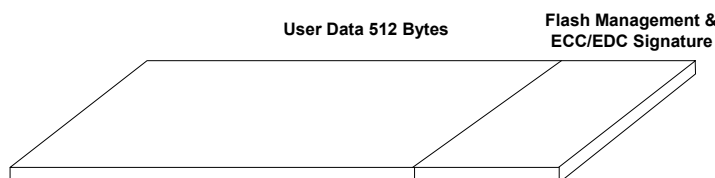

Figure 8: Page Structure
- **Page** – Each page contains 512 bytes of user data and a 8-byte extra area that is used to store flash management and EDC/ECC signature data, as shown in Figure 8.